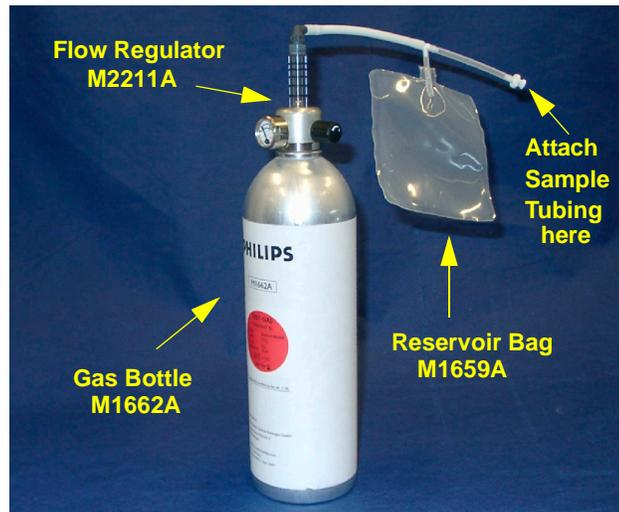

Figure 11 Span Checking Equipment including Gas Canister and Spray Valve
- 5 Make sure the pump is off, then connect the calibration gas bottle, the reservoir bag and the sample line as shown in Figure 11.